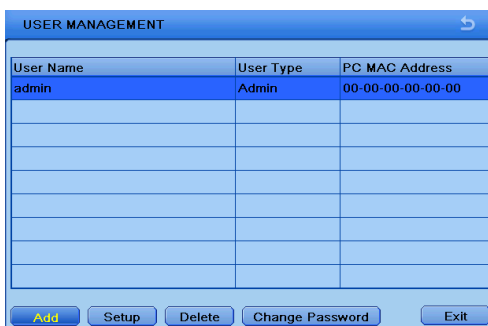

Fig 4-31 User Management Configuration
- ① Go to Main Menu→Setup→Users. Refer to Fig 4-31.